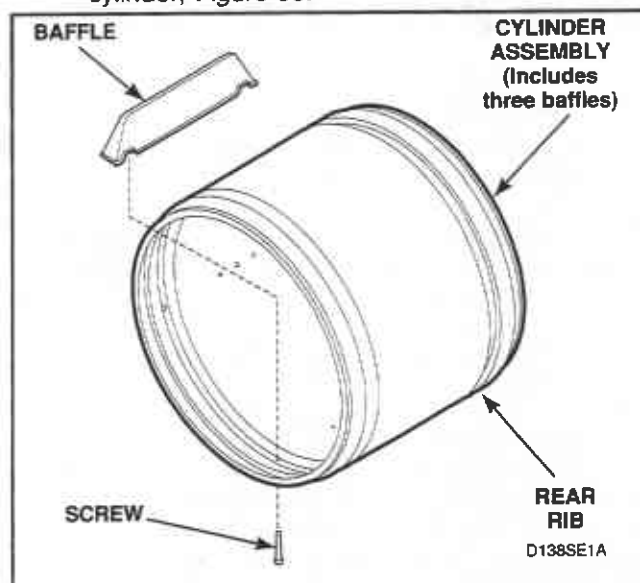

Figure 35
- Baffles - Remove screws holding baffles to cylinder, *Figure 35*.